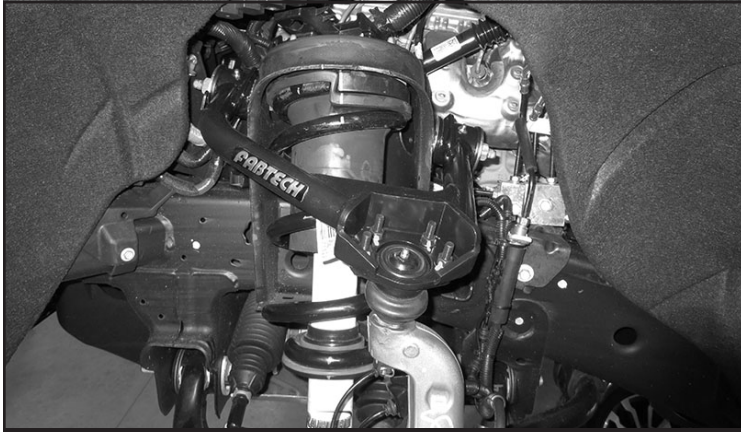

FIGURE 29 - STEP 25
25. Reinstall the upper control arm to the knuckle, the sway bar link to the lower control arm and the tie rod end to the knuckle torque all nuts to 35 ft-lbs. Reinstall the axle hub nut and torque to 156 ft-lbs. Remove the bracket from the ABS sensor line and attach to the brake line hose using the supplied zip ties. Reinstall the brake line bracket to the knuckle using the factory hardware. Torque to 11 ft-lbs. **SEE FIGURE 29**